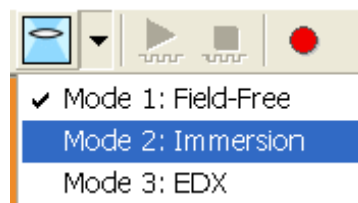

Figure 4 – Mode selection
- 2.6 Select mode 1 (also referred as Field-Free, High Resolution mode, refer to figure 4) for finding the area of interest or when working with magnetic samples.
- 2.20 For ultra high resolution imaging, select mode 2 (also referred as Immersion, Ultra-High Resolution, refer to figure 4).
- 2.22 At the end of the session, select mode 1 (refer to figure 4) and follow steps 1.2 to 1.8 for specimen exchange or removal of specimen.